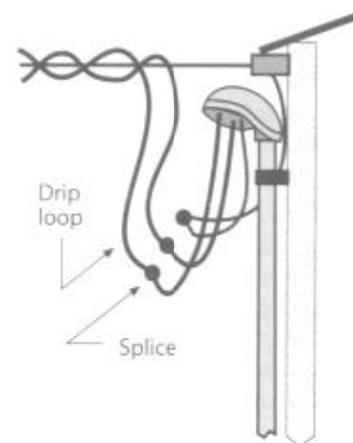

Fig. 8-19 If the service head cannot be located higher than the insulators, provide drip loops. Splice at bottom of loop, and insulate.
Service wire clearance NEC 230.24(B) requires that cabled service wires not over 150 volts to ground (or drip loops as illustrated in Fig. 8-19) be kept 10 feet above finished grade at the point of attachment to the building; 12 feet above residential property and driveways and commercial property not subject to truck traffic; 18 feet over parking areas and driveways other than residential, and farm properties that are subject to truck traffic. No wires may come closer than 3 feet to an openable window (there is no restriction to wires above the top of window), or 3 feet horizontally and 10 feet vertically from any door, porch, fire escape or similar location from which the wires might be touched. If they pass over all or part of a roof that has a rise of 4 inches or more per foot, they must be kept at least 36 inches from the nearest point. If the roof is flatter (less than 4 inches of rise per foot), they must be kept at least 8 feet from the nearest part of the roof.
If it is impossible to locate the service head above the insulators, be sure to provide drip loops (see Fig. 8-19) to keep rain out of the cable. Your power supplier may